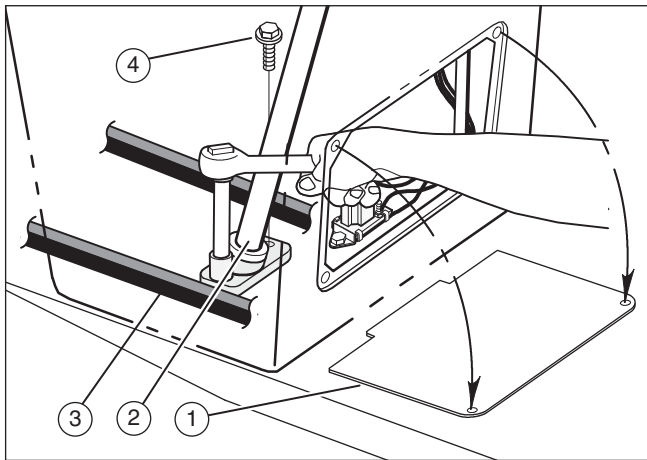

Figure 20
9. Remove the access panel (1) (see **Figure 20**).
10. Remove the two screws (4) that attach the steering shaft assembly. Raise the steering wheel and steering shaft assembly. Pull the motion drive belt (3) under the steering shaft assembly.